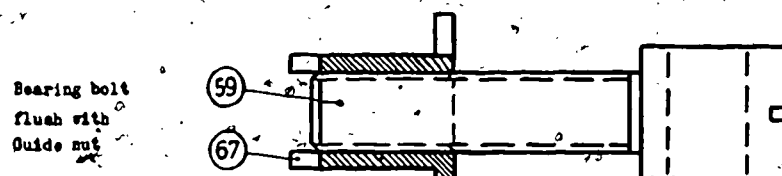

Fig. 11 Bearing bolt with guide nut
3. Screw bearing bolt (59) sufficiently deep into guide nut (67) to get both parts flush on the end opposite the guide pin (see Fig. 11).